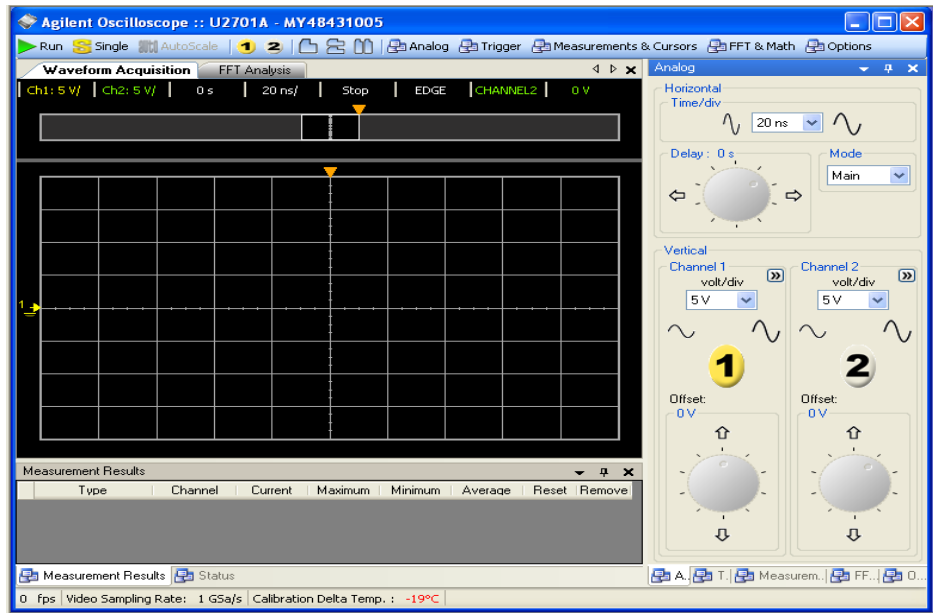

Figure 2-1 Soft front panel display
- 1 On the modular oscilloscope, set the offset to 0.5 major divisions from the bottom of the display as shown in Figure 2-1.